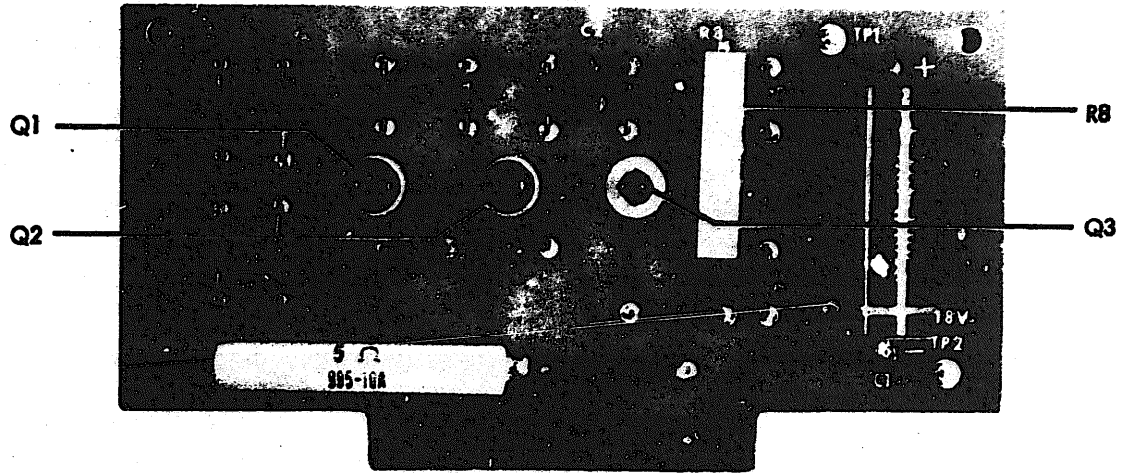

Figure 4.1 Module A3, Low Voltage (LV) Power Supply C02300500
3. Low Voltage (LV) Power Supply, module A3 (Figure 4-1)